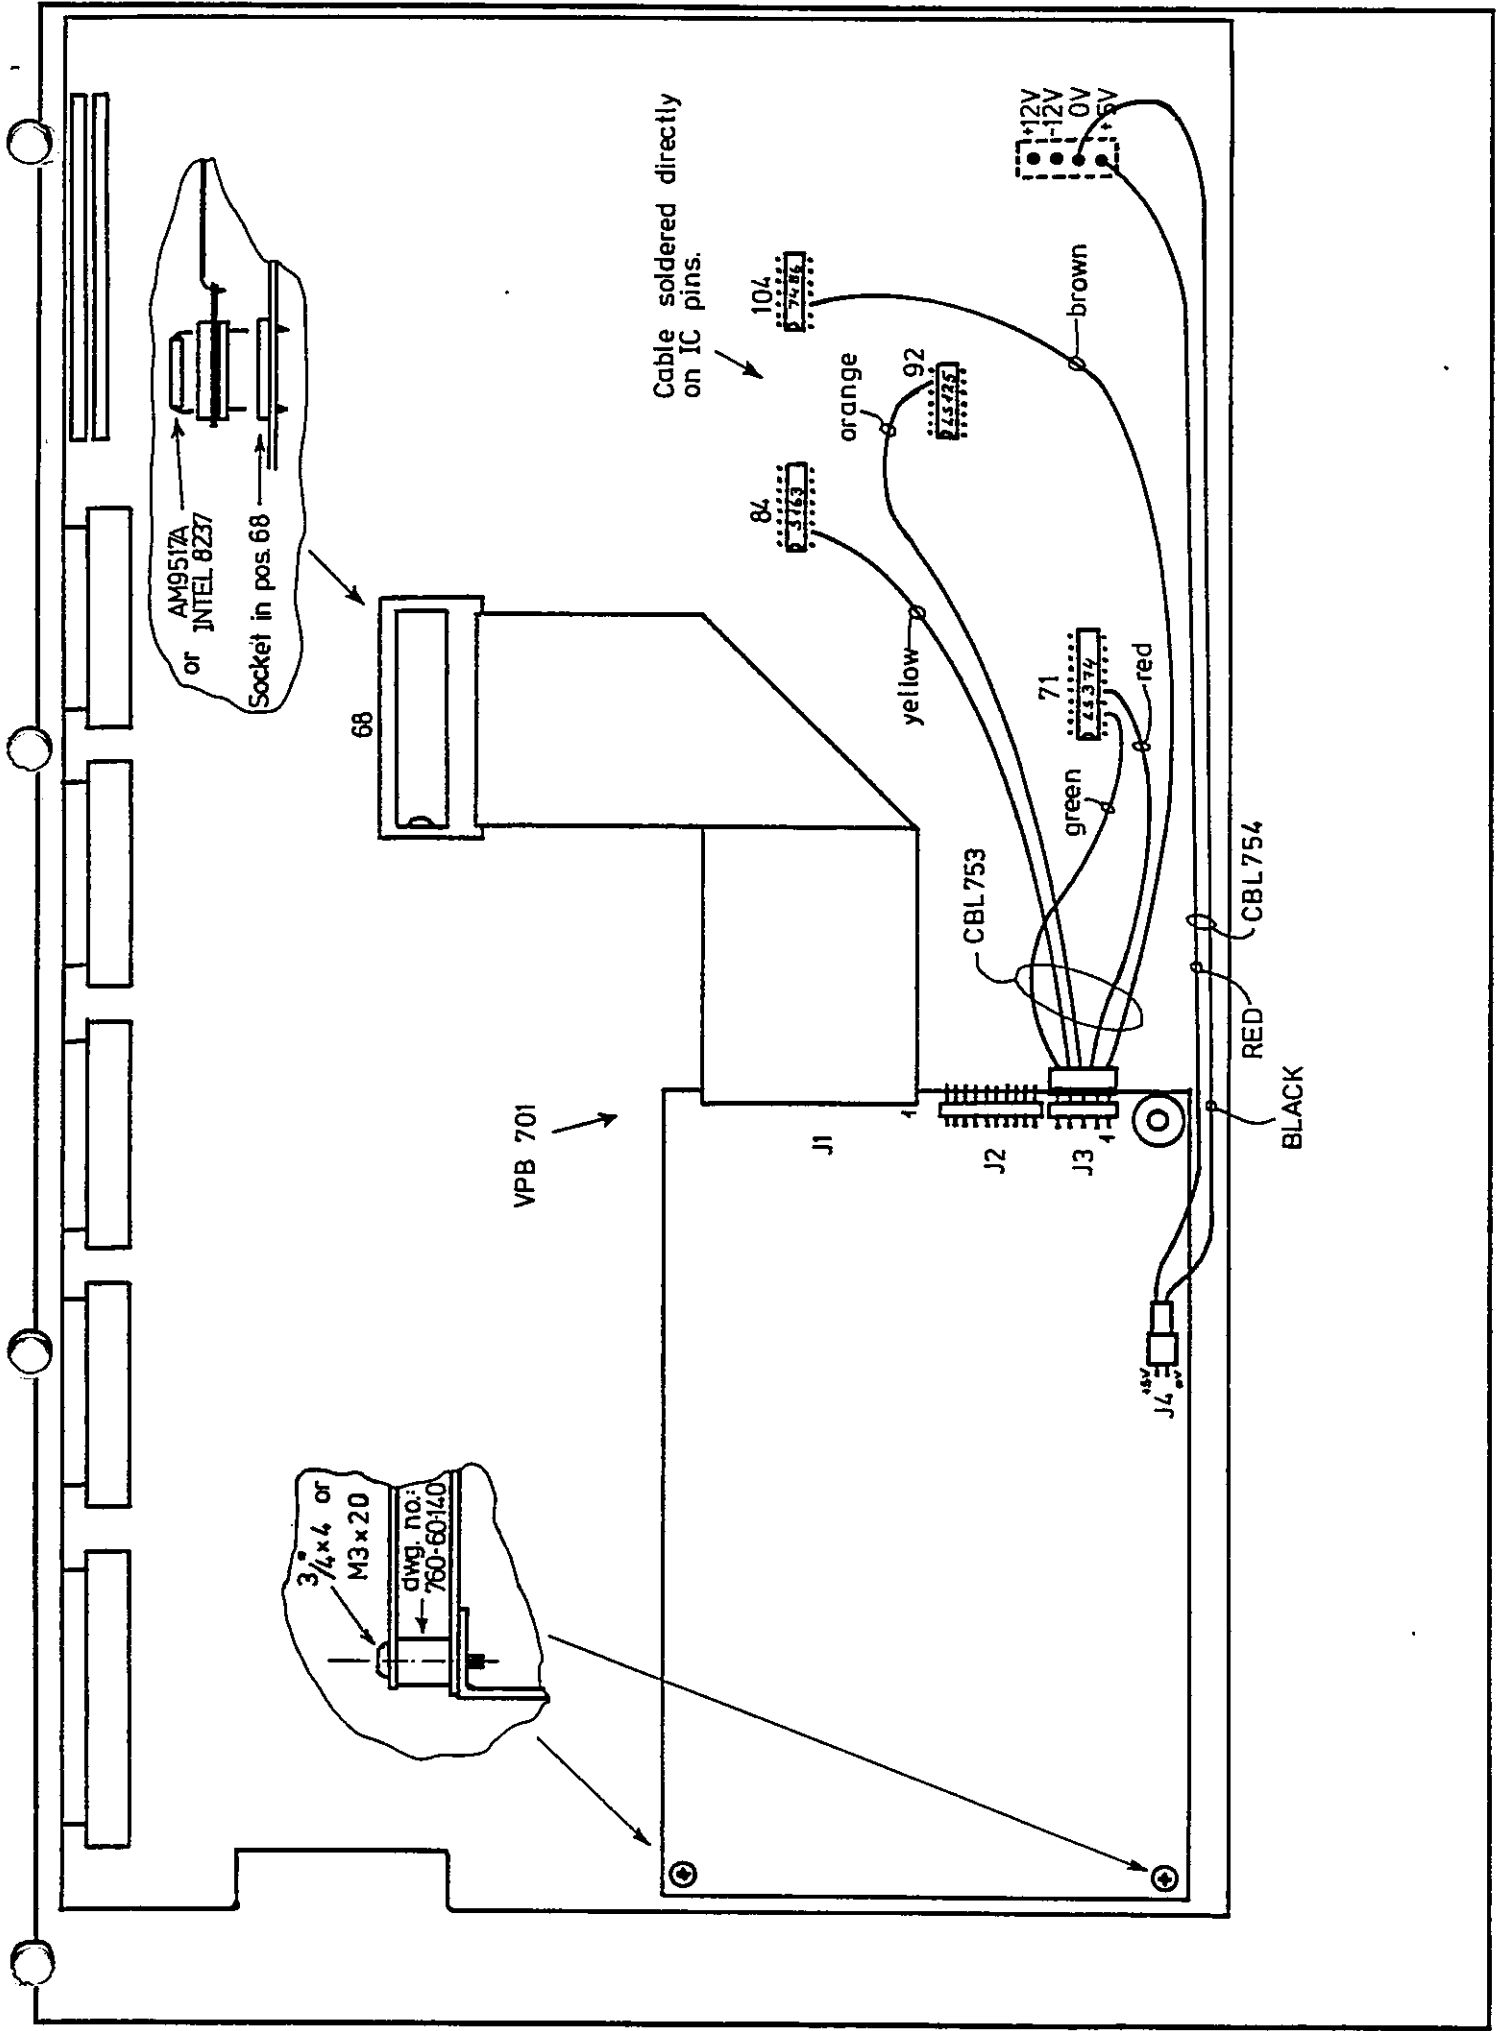

Fig. 7. Installation of MF018
14. Insert the printed board connector in position 68 as shown on fig. 7. Be sure that the connector is aligned correct in the socket of the main printed board; and the connector is pushed sufficient down in the socket.
16. Insert the power cable, CBL754 (refer to fig. 7). The red wire is soldered to the +5V terminal. The black wire is soldered to the 0V terminal.
17. Insert the signal cable, CBL 753 (refer to fig. 7).